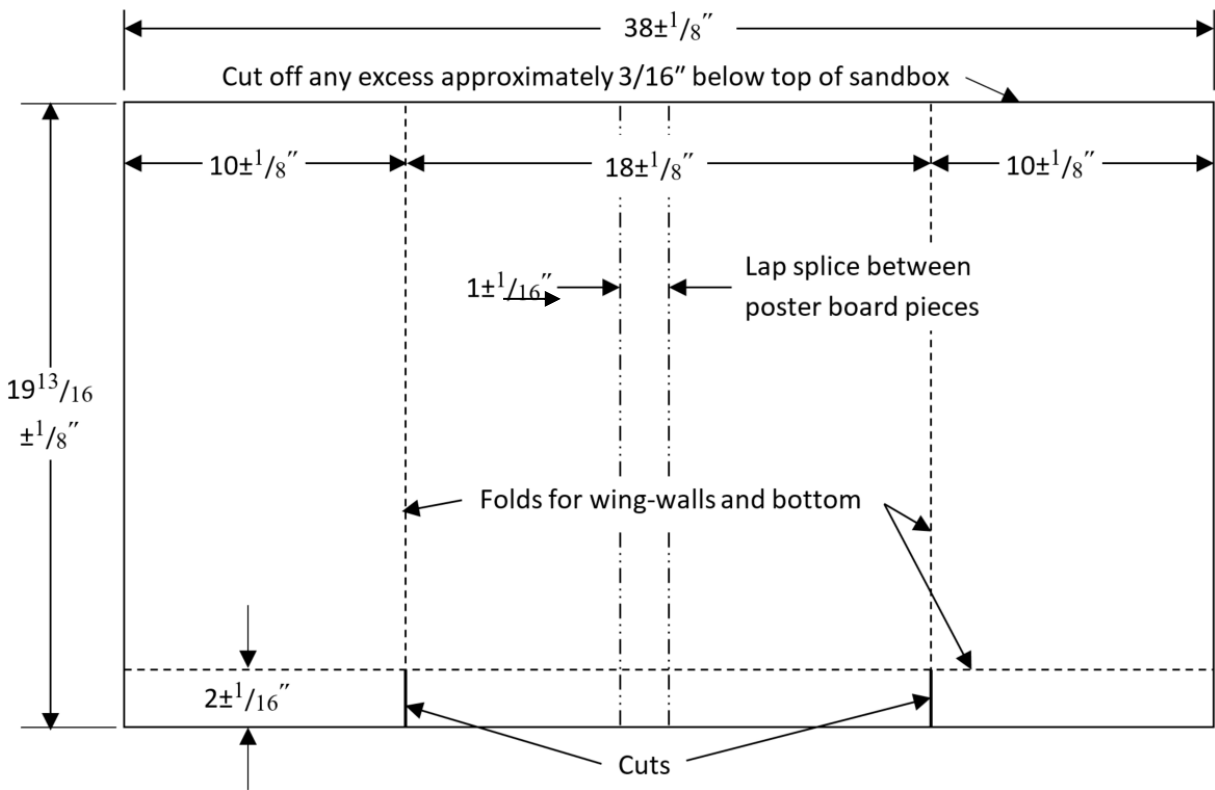

Figure 6: Dimensions of the poster board wall facing (not to scale)
- a) Facing – Two pieces of poster board must be joined with a lap splice. See Figure 6 for dimensions.